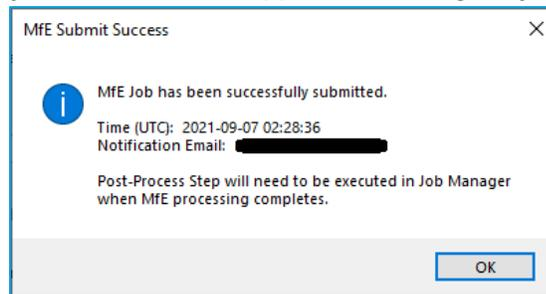

Figure 112 – Agisoft Ortho Mapping job submission confirmation
29. A successfully submitted job notification will appear confirming the job submission (Figure 112).